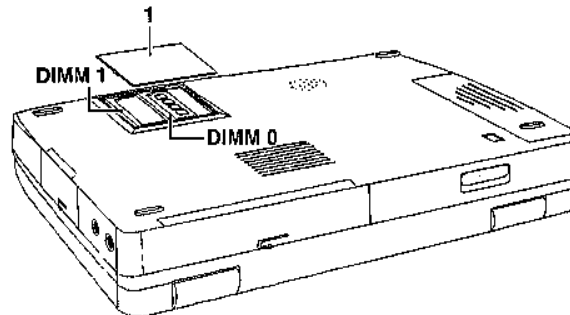

Figure 7-10-1 DIMM installation
2. To remove the access cover (Figure 7-10-1 #1), press its latch and lift the cover.